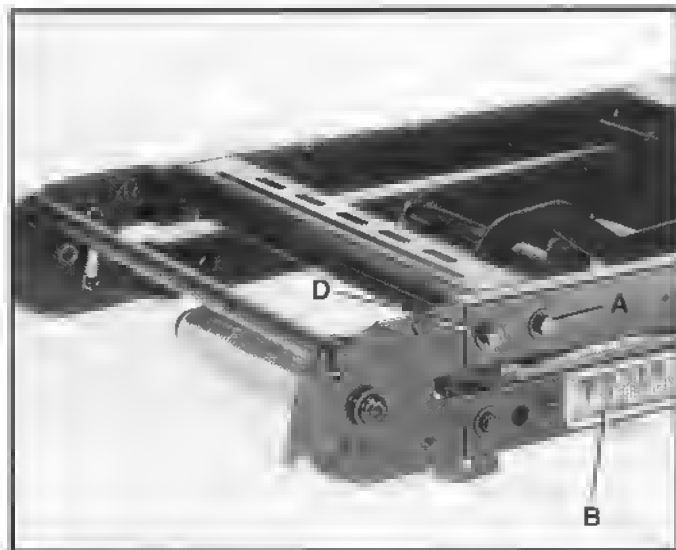

Fig. 4
IMPORTANT: TO AVOID MISALIGNING THE THREADED MOUNTING HOLES IN THE SAW STAND WITH THE HOLES IN THE HANDLE ASSEMBLY, DO NOT REMOVE HARDWARE (A) AND (D) FIG. 4, AT THE SAME TIME! PROCEED AS FOLLOWS:
1. Using the supplied 10mm socket, remove screw, lockwasher, and flat washer (A) Fig. 4, from side of saw stand (B). Remove corresponding screw, lockwasher, and flat washer from the other side of saw stand (B). **NOTE:** Hardware will be used again.